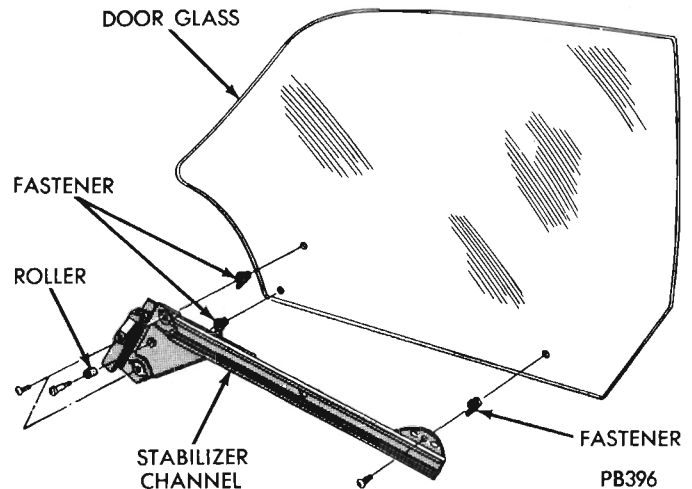

Fig. 2 - Front Glass Attachment
- (1) Remove screws attaching stabilizer channel to glass (Fig. 2).
- (2) Raise door glass assembly out of door.
- (4) Remove fasteners.